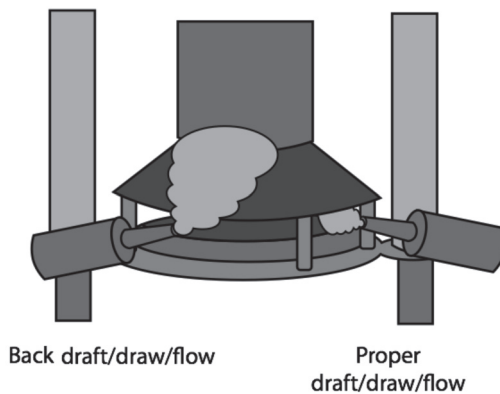

Figure 9-49.
Check for spillage using smoke, mirror, etc., 1/2 inch below and 1/2 inch out from the lip of the draft diverter all the way (360) around it. If this spillage does not stop after one minute of water heater operation, the water heater fails the spillage test, see Figure 9-49.